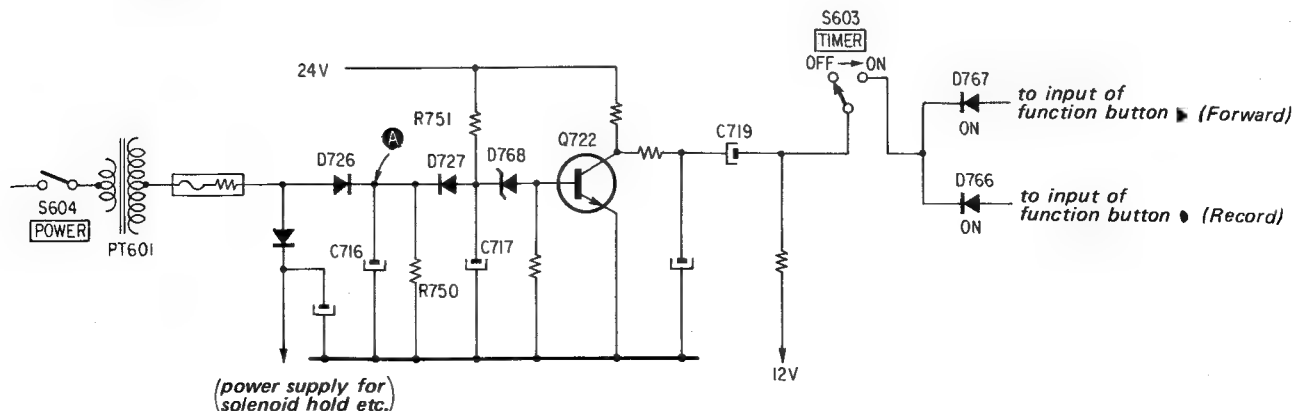

Fig. 15
13. TIMER-Activated Operation (Refer to Fig. 15)